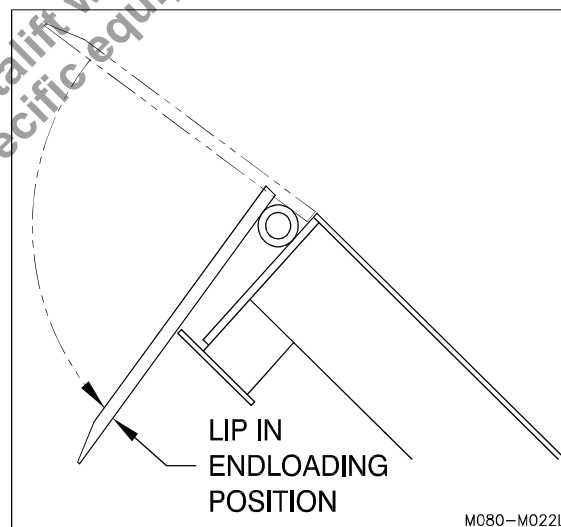

Figure 30: Lip Fully Folded In
1. With the dock leveler in its vertically stored position, Depress and hold the **DECK LOWER** button until the deck is 45 degrees from vertical and in the travel zone, release the **DECK LOWER** button (buzzer will sound in a pulsating manner). Depress and hold the **LIP IN** button until the lip has fully folded in (See "Figure 30: Lip Fully Folded In" on page 52).